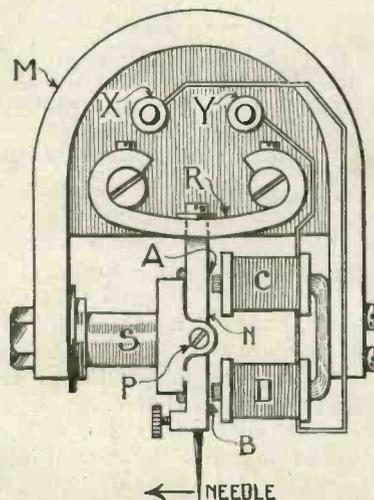

Fig. 1.—Diagrammatic sketch of typical pick-up
Let us consider for a moment how a pick-up functions. A permanent magnet M (see Fig. 1) has a steel support S, which carries pivots P. An armature N is mounted in the pivots and has one end secured to a piece of rubber (R) whilst its opposite end is provided with a hole and fixing screw to take the needle.